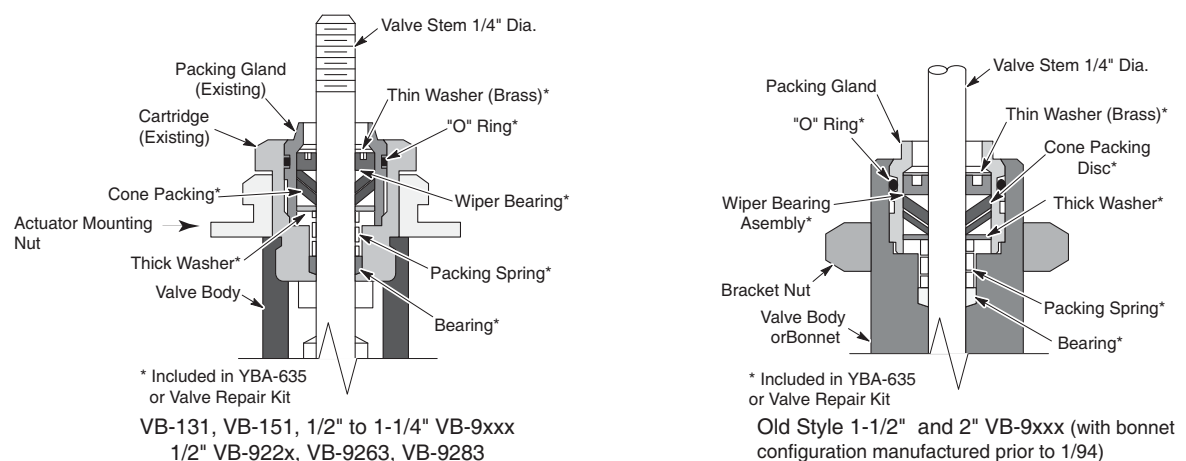

Figure-2 Installation of YBA-635 Packing Parts Kit onto Discontinued Valves
- Obsolete YBA-622 has a brass thin washer (refer to Figure-2) and white top bearing.
- Remove existing packing gland with TOOL-20-1. Make sure that the retaining ring is brass and not stainless steel. Salvage existing packing gland (see Figure-2 )
- If applicable, slide actuator mounting nut (see Figure-2 ) onto valve body with threaded section pointing upwards. Install new packing per above figure.